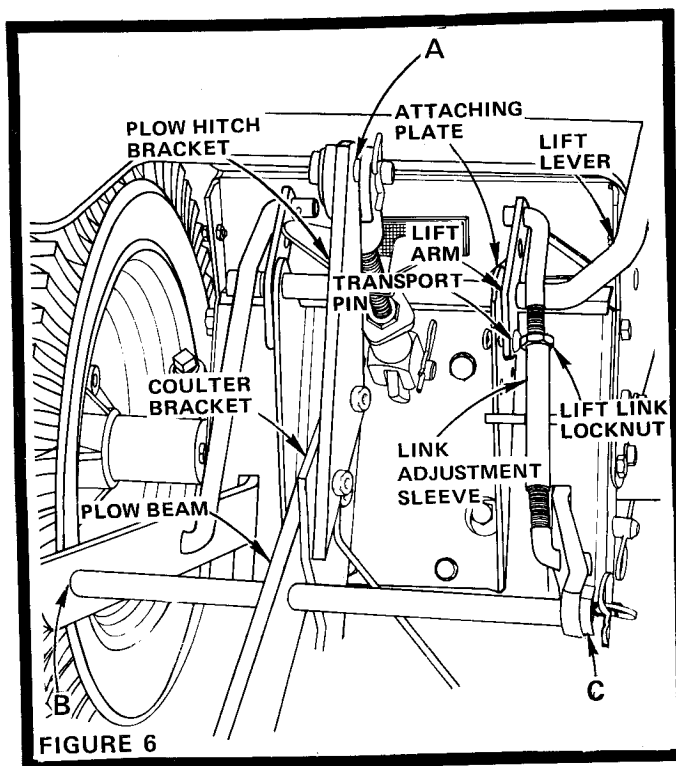

FIGURE 6
Figure 6 illustrates a typical attachment mounting at points A, B and C. Instructions are given in each attachment Owners Manual for particular mounting procedures.
In order to use a Plow with your Manual 3-Point Hitch the Plow Hitch Bracket must be to the right of the Plow Beam and Coulter Bracket (Fig. 6).
- a. Loosen Lift Link Locknut (Fig. 6). Turn Link Adjustment Sleeve counterclockwise to lengthen linkage. After adjusting, tighten Locknut against Link Adjustment Sleeve.
2. Rotate Lift Lever forward (Fig. 6).
3. Line up hole in Lift Arm of Attaching Plate and Lift Lever with hole in side of Attaching Plate as shown. Insert Transport Pin and secure with Retainer Spring (Fig. 6).